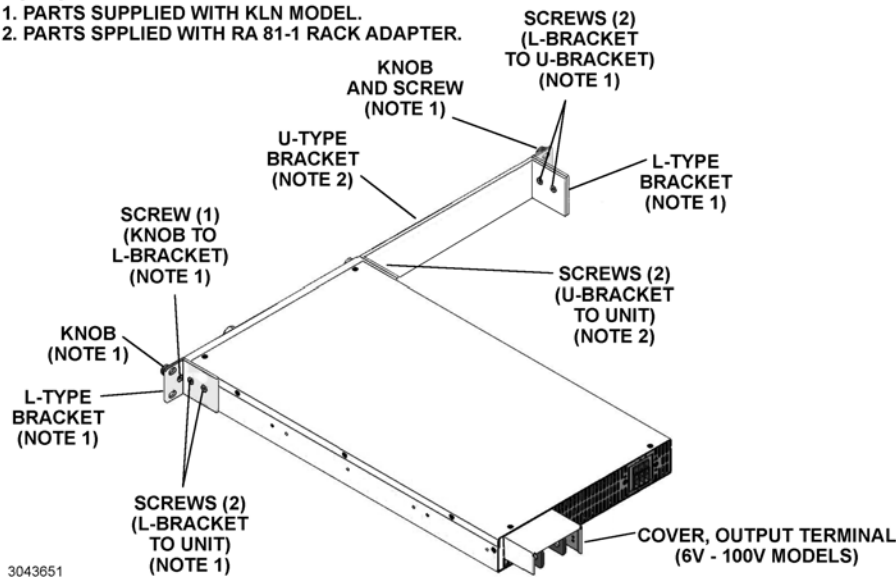

FIGURE 2-7. MOUNTING ONE KLN 750W UNIT IN 19-INCH RACK
1. On one side of the unit, mount one L-type bracket with knob (supplied with unit) to the unit using two screws supplied with unit (see Figure 2-7).